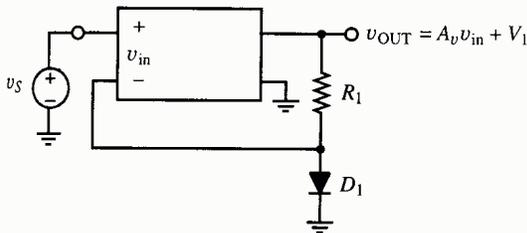

Fig. P10.38
10.38 ○ The feedback network to a voltage amplifier consists of a resistor and a forward-biased diode, as depicted in Fig. P10.38. The diode is kept in forward-bias conditions at all times by a dc bias component V_1 of v_{OUT} . Choose R_1 and V_1 such that $\beta \approx 0.005$ and $r_{in-\beta} = 10 \text{ k}\Omega$. What is the resulting value of $r_{out-\beta}$?